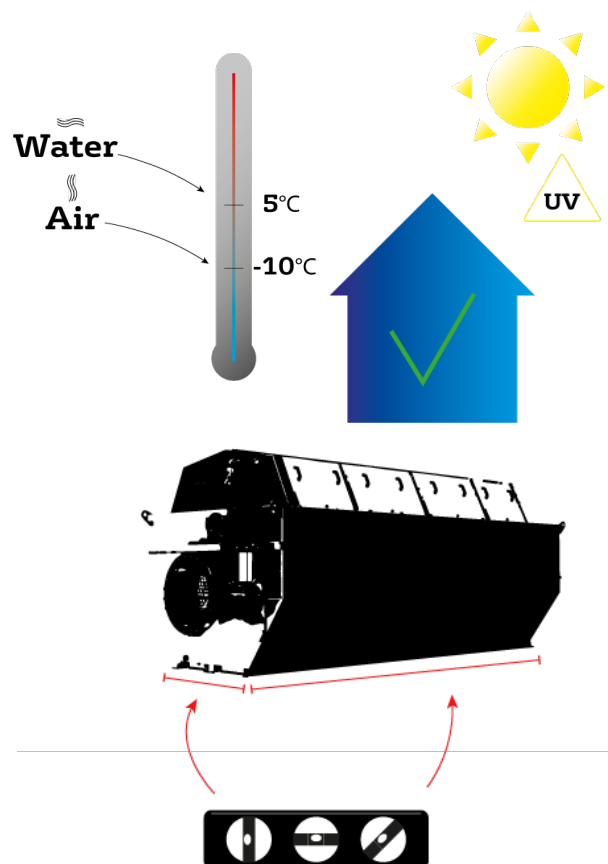

Figure 4.4 Filter installation
- ▶ The filter must be level in both directions (see figure 4.4).